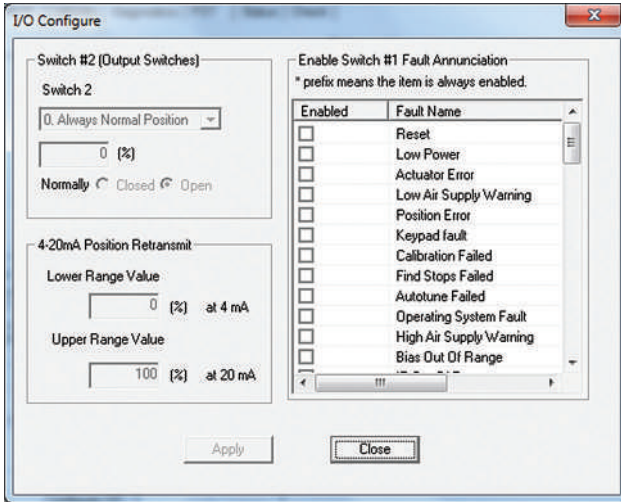

Figure 26 - I/O Configure
This procedure gives an example, using the settings in Figure 26, to see if a switch is operating:
1. Click the **Configure** tab, click and Figure 26 appears.